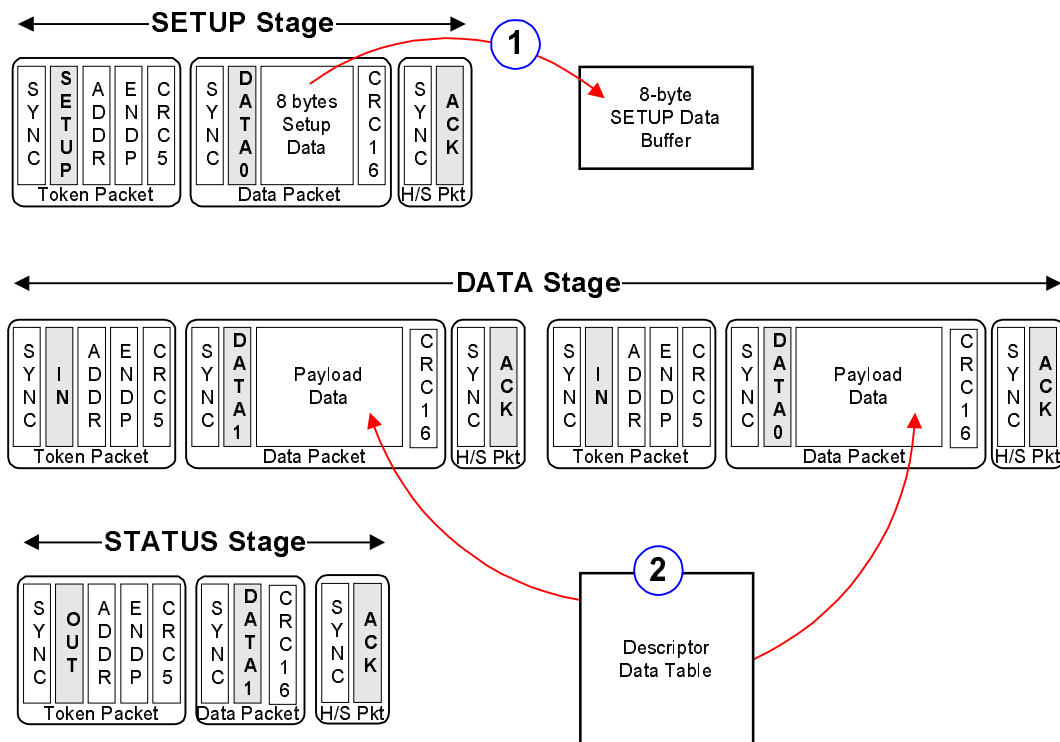

Figure 2. EZ-USB Logic Does Most of the Work for a "Get Descriptor" Request
Figure 2 shows how the EZ-USB handles the same "Get Descriptor" command. The EZ-USB core directly transfers setup packet data into a dedicated eight-byte setup data buffer for CPU inspection (1). Then the 8051 loads an EZ-USB pointer with the start address of the requested descriptor data (2). The EZ-USB Smart Engine Core does the rest. The Smart Engine Core automatically takes care of error checking and retries, dividing the table into packets for the various IN transfer and responding to the Status stage.